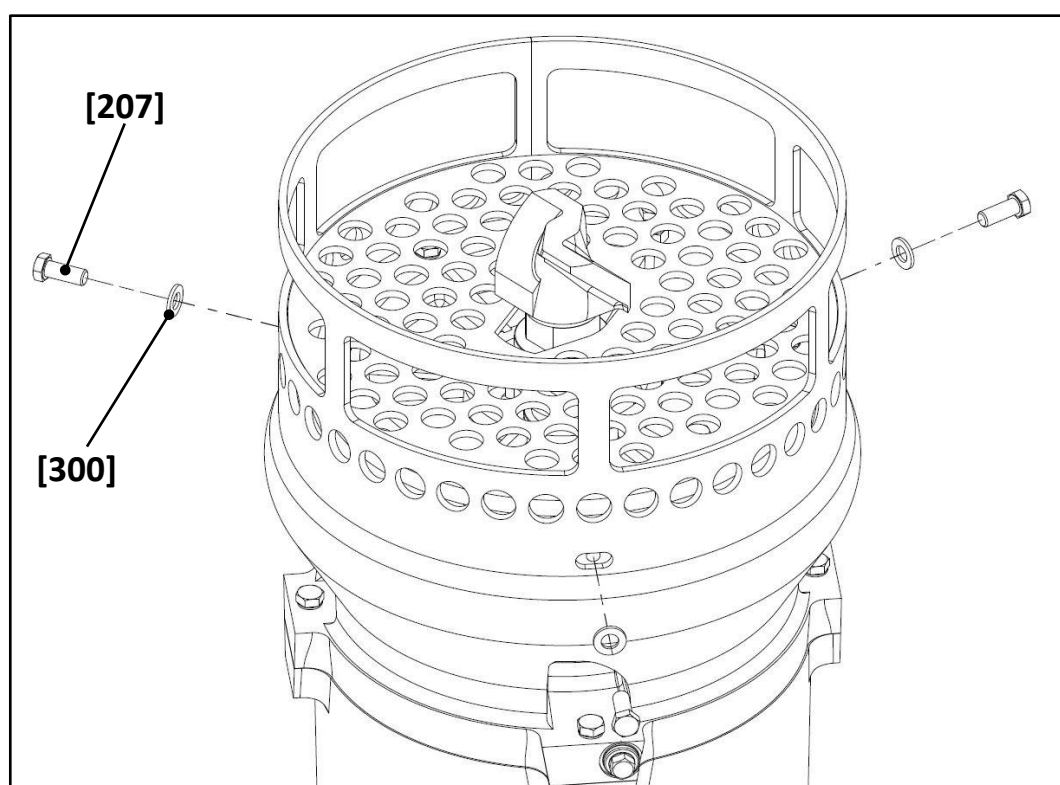

Fig. 25
- remove the n°3 bolts **[207]** and related washers **[300]** (see **Fig. 25**);